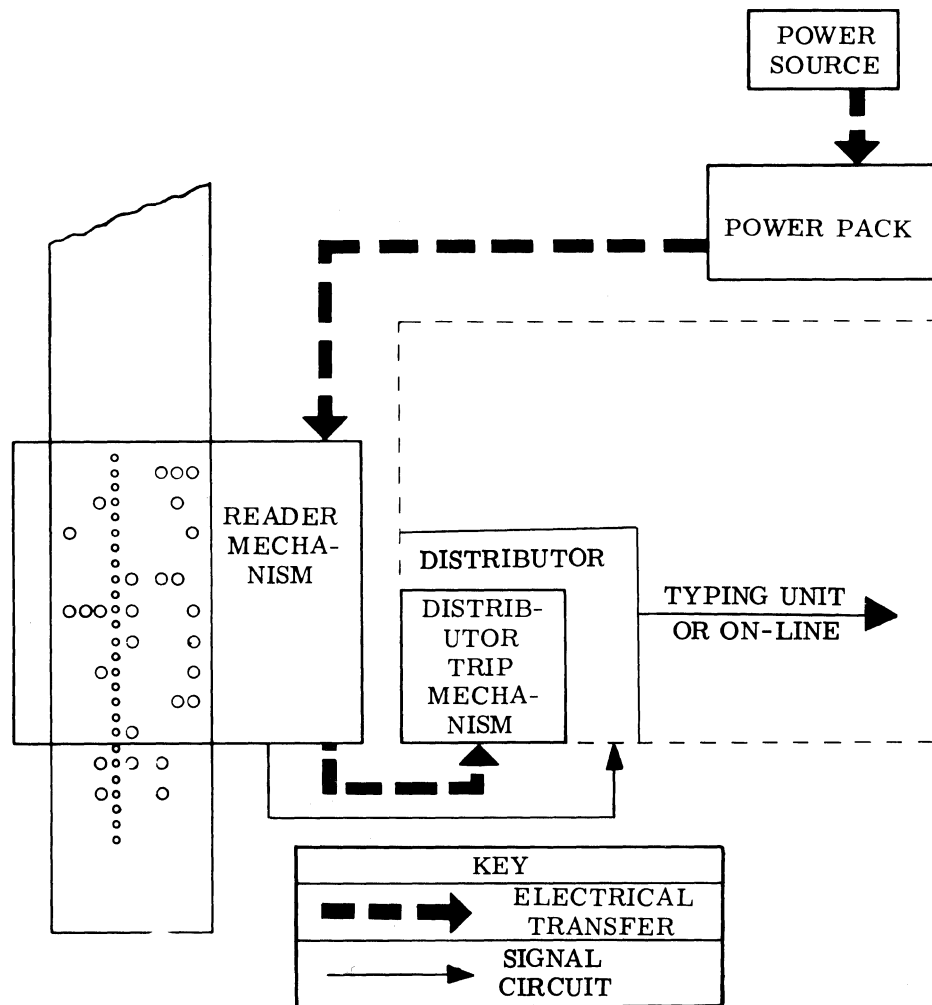

Figure 2 - Tape Reader Package with Major Mechanisms
- 3.02 The tape reader package consists of three mechanisms; the reader mechanism, the power pack, and the distributor trip mechanism (Figure 2).